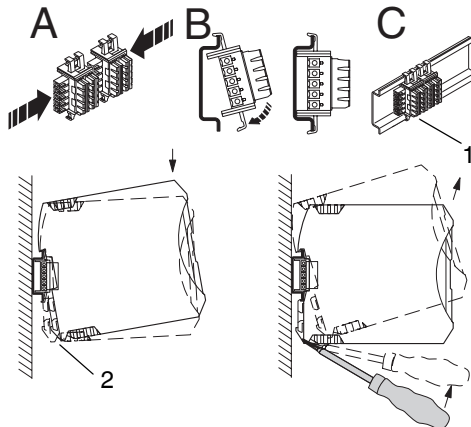

Figure 4 Assembly and removal
- When using the DIN rail connector, first place it into the DIN rail (see A – C, Figure 4). It is used to bridge the voltage supply and for error messages.